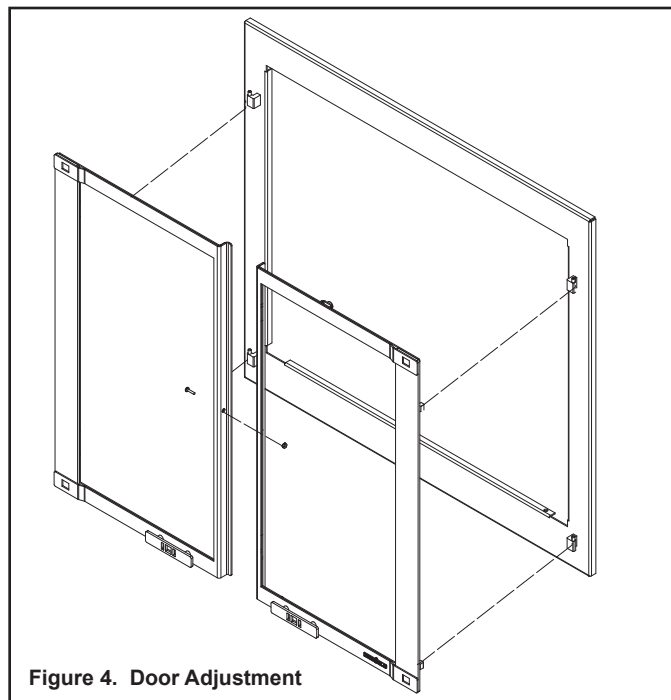

Figure 4. Door Adjustment
5. Attach door brackets to appliance glass frame using the four mounting screws (see Figure 4). The flat front of the bracket needs to sit flush with the desired depth of the door. For example: If the door is to fit tight against the appliance, install the brackets flush with the face of the appliance. If the door is to sit up tight against a finishing material with maximum thickness of one inch, the brackets should be flush with the face of the material.
1. The doors are shipped with a child safety locking bolt. To lock the doors, a Phillips screw driver and a 3/8 in. wrench will be needed. After hanging the doors on the frame, place the bolt through the back of the doors. The bolt goes through both doors in the middle, and is retained by a nut to prevent them from operating. See Figure 4.